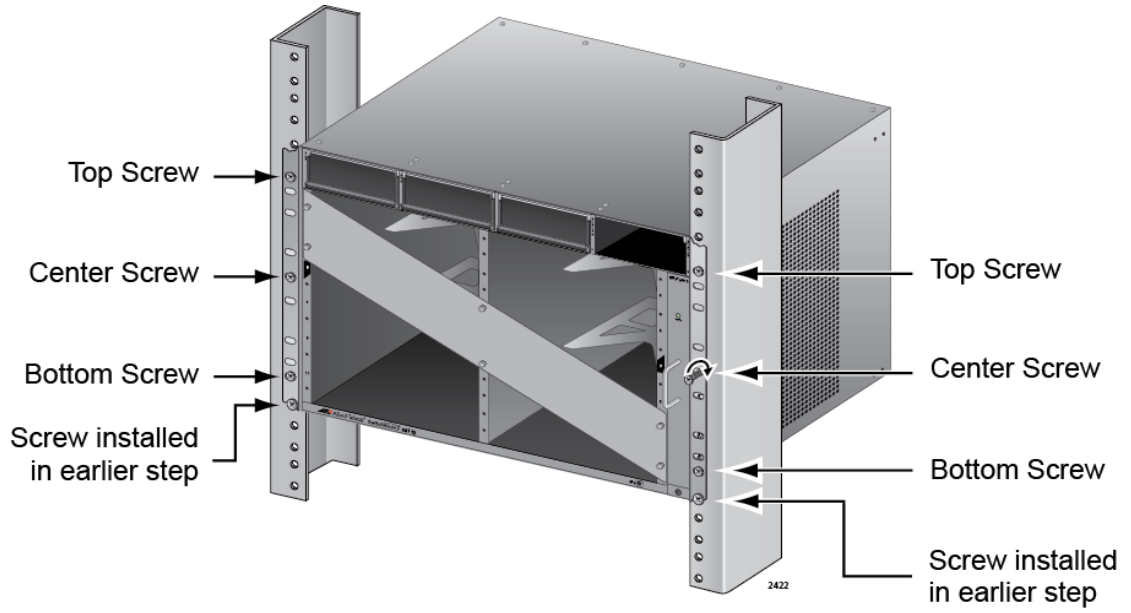

Figure 34. Installing the Rack Mount Screws
4. Install six rack mount screws (not provided) to secure the chassis to the equipment rack, as shown in Figure 34 on page 100.